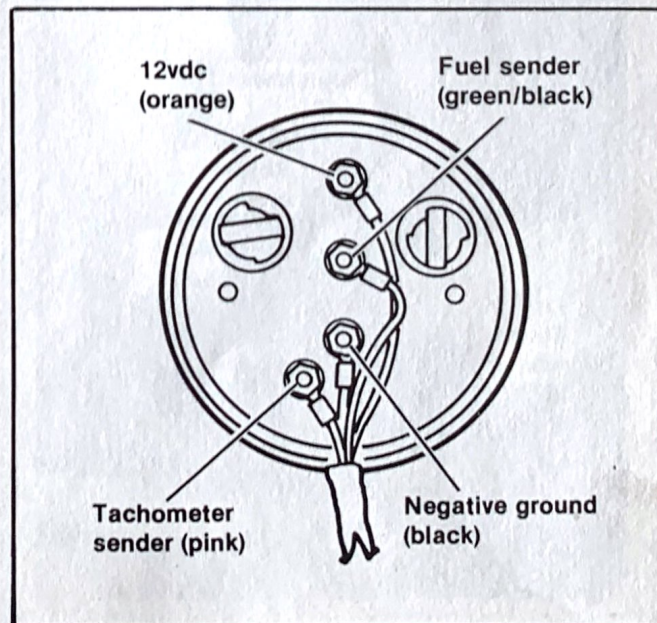

Figure 2-4. Tachometer Wire Connections
4. See Figure 2-4. Connect wires to the tachometer as shown. Install the speedometer cable.